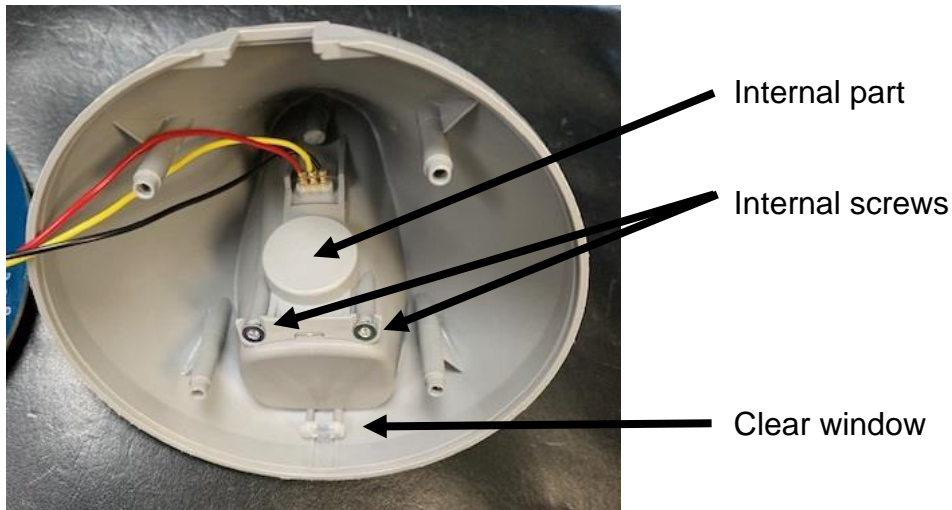

Figure 5 – Charger Internal Parts
- 4.8. Unscrew the two internal screws using a T9 Torx screwdriver and remove the Internal part. See Figure 5 below.